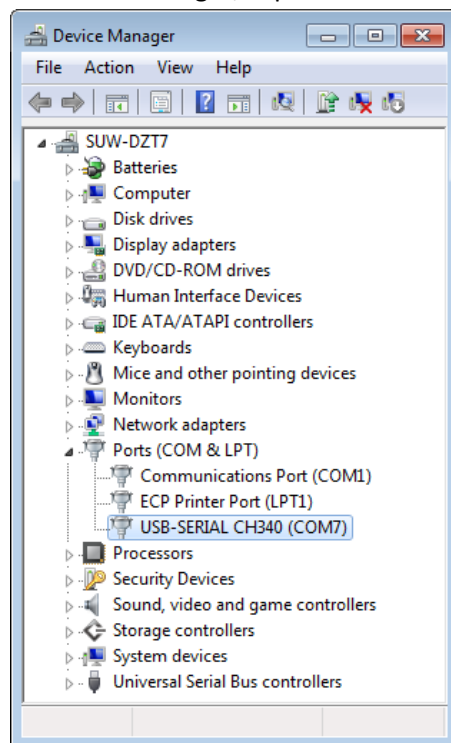

Figure 8
- b. In Device Manager, Expand the Ports section (Figure 8).
- c. Highlighted in Figure 8 is the COM port the computer assigned the USB adapter.